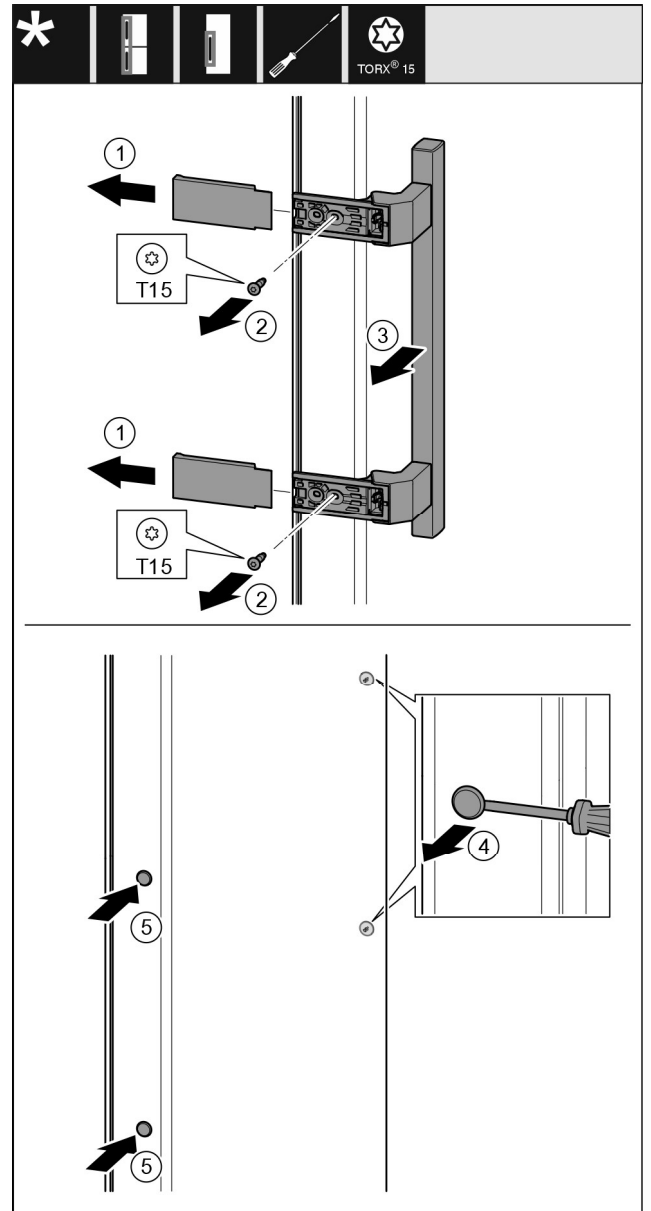

Fig. 39
- ▶ Pull off the cover Fig. 39 (1).
- ▶ Turn out the screws Fig. 39 (2) with the screw driver.
- ▶ Remove the handle Fig. 39 (3).
- ▶ Carefully lift the side plug Fig. 39 (4) with a slotted screwdriver and pull it out.
- ▶ Reinsert the plug Fig. 39 (5) on the other side.